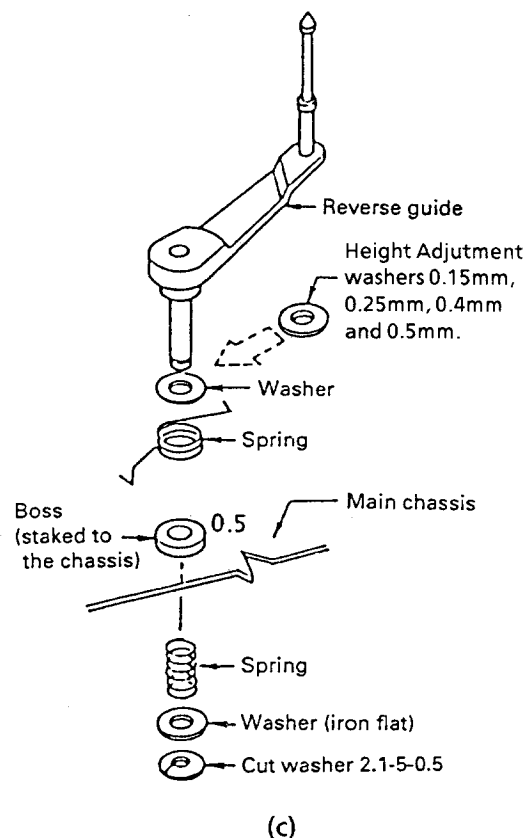

Figure 1-9
- (1) Place the reverse guide height adjustment jig (Part code: JIGRVGH-18) as shown in Figure 1-9 (a) and check that no space is visible between the lower flange of the reverse guide and the lower edge of the jig as shown in Figure 1-9 (b).
- (2) To readjust the height of the reverse guide, remove the cut washer located underneath the guide. Lift the guide out, and insert the washer(s) to produce the proper height as shown in Figure 1-9 (c).